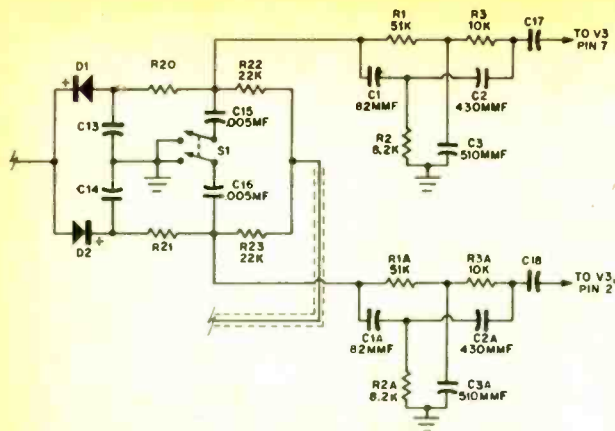

Fig. 4—Part of original MX adaptor schematic showing changes. The new components required are listed below.
(2) Remove the original C15 and C16 capacitors (.001 mf) from the circuit and discard. (3) Disconnect the leads of C17, C18 to matrix terminal strips. Now a 4" length of black hook-up wire is connected to the lug in place of C17. A 4" length of red hook-up wire is connected in place of C18. (Leave the other lead of each capacitor connected to its respective tube socket pin.) (4) Remove the original 1% resistors R21, R22, R23, R24 from the matrix terminal strips and discard. Substitute the new values of R21, R22, R23, R24 (see Parts
List and Fig. 4). Capacitors C13 and C14 remain unchanged. (5) Assemble the components (except C15, C16, C17, C18) on the two 5-lug filter strips as shown in Fig. 5. Note that the center lug of each strip is grounded. (6) Mount the two filter terminal strips with 6-32 hardware. One strip (we will call it A) is installed approximately under C19; the other is installed approximately where C17 is located. (7) Now wire in the two strips as per Fig. 5. Connect the free end of C18 to the filter strip A located under C19. Connect C17 to the other strip. (8) Connect the previously installed red lead from one matrix strip to the A filter strip where C18 and R1A meet. At this same lug connect one lead of the new capacitor C16.